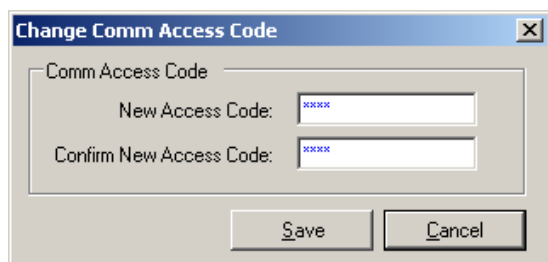

Figure 4-1 Change Comm Access Code Dialog Screen
1. From the IPScOm Main Screen menu select **Tools/Security/Change Comm Access Code**. IPScOm will display the Change Comm Access Code dialog screen (Figure 4-1).